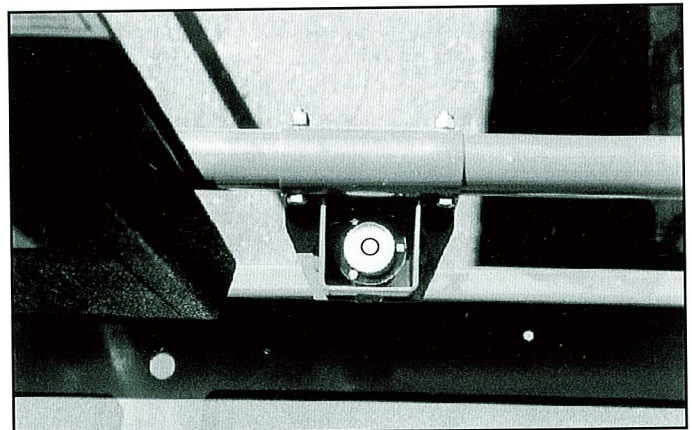

Figure 3: Platform Orbit Level
3. While observing the bubble level on the front guardrail (Figure 3), extend the outrigger opposite the position of the bubble until the platform is level. For example: if the bubble is to the front and left in the orbit, extend the rear right outrigger. Continue to adjust until the bubble is centered in the small circle indicating that the platform is level.